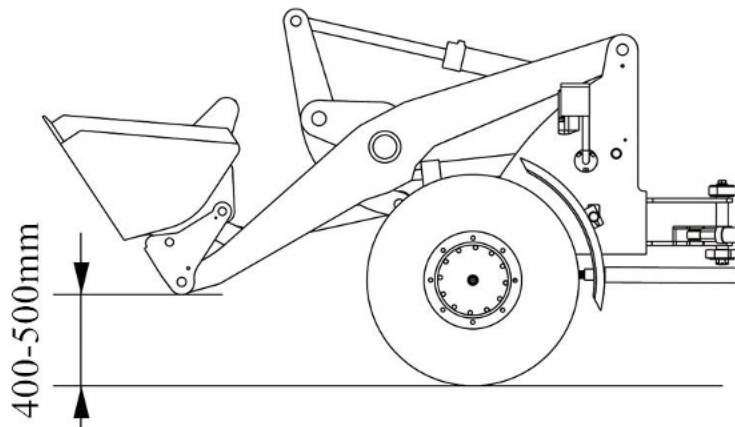

Figure 3-15 Driving status
- 6) When driving on flat ground, adjust height of the working device so that lower end of boom is 400mm to 500mm above ground, as shown in Figure 3-15.